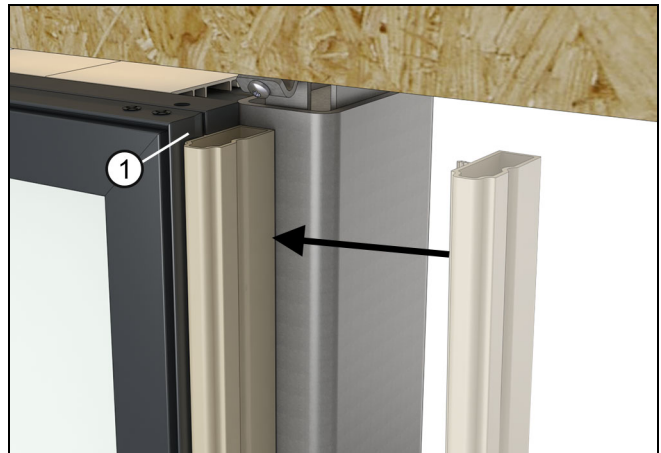

Figure 93 Attach full length mull filler
14. Attach the mull filler to the frame by inserting the barbed leg into the accessory kerf on both sides of the mull. Center the filler on the frame about 3/8" (10) from each end. See Figure 93.